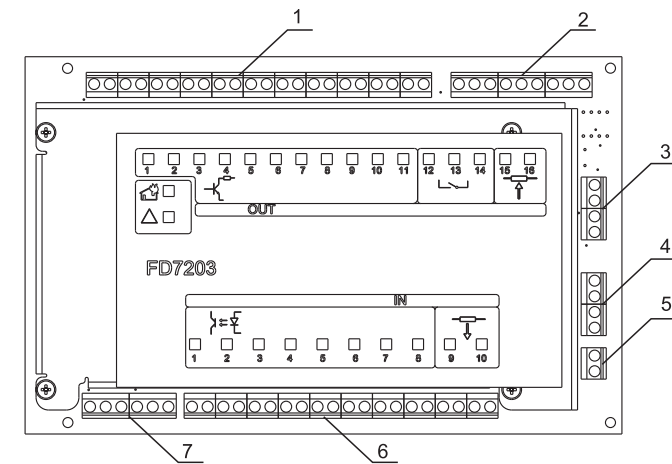

Fig.4
Connect the device to the loop of the fire control panel by means of the terminals, installed on the PC board (fig.4)
- 2.1. Connect the signal loop from the fire control panel to terminals (+) and (-) ADDRESS LOOP (pos.7, fig.4).
- 2.2.1. If the device is power supplied from the fire control panel, connect the terminals (+) and (-) POWER LOOP (pos.4, fig.4) to the power loop of the fire control panel.
- 2.2.2. If an autonomous power source is provided, use the terminals (+) and (-) POWER LOOP (pos.4, fig.4) to connect the device to it.
- 2.3.1. Terminals of the programmable inputs INPUT1 ÷ INPUT8 (pos.6, fig.4). Activation voltage (5÷30)V DC;
- 2.3.2. Terminals of the monitored inputs C.INPUT1 and C.INPUT2 (pos.6, fig.4). The terminals at the time of delivery are terminated by resistor 3.6kΩ. If any monitored input is not used it should remain terminated by resistor. The combination switch + resistor 3,6 kΩ + resistor 1kΩ (fig.5) have to be at the end of the line.
- 2.3.3. Terminals of the programmable outputs OUTPUT 1 ÷ OUTPUT 11" (pos.1, fig.4);
- 2.3.4. Terminals of potential free relays REL OUTPUT 1 ÷ REL OUTPUT 3 (pos.2, fig.4);
- 2.3.5. Terminals of the monitored outputs C.OUTPUT1 and C.OUTPUT2 (pos.3, fig.4). The terminals at the time of delivery are terminated by resistor 1.0 kΩ. If any monitored output is not used it should remain terminated by resistor. Maximal resistance of the loop 50Ω and connected end of line element (resistor 1kΩ (fig.5)) in the line are necessary for the normal work of the outputs.